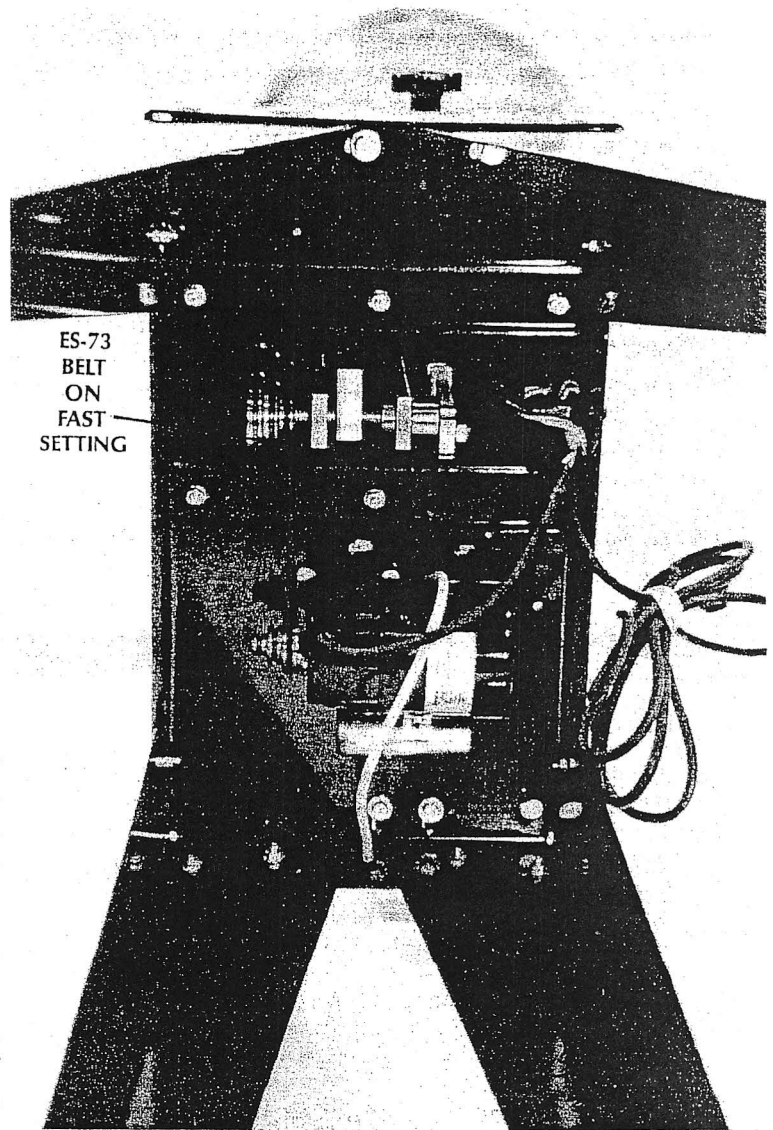

Fig. 15
4. After the belt is free from the pulleys, determine what speed you want to operate the saw at. The inside step is the fastest setting and the outside step is the slowest (fig. 15). NOTE: The saw operates at 1550 strokes per minute with the ES-73 belt installed in the inside (fast) pulley step, 750 strokes per minute in the middle pulley step and 375 strokes per minute in the outside (slow) pulley step.